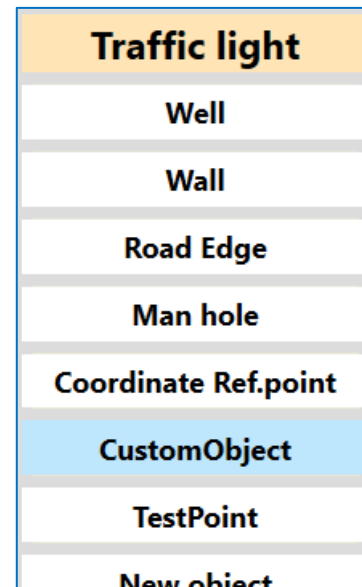

Figure 38 Selection of surface features to be created within the project
2. (The button with the text Traffic light in the Figure 37). A list of defined surface features appears see Figure 38. Select the type to use.